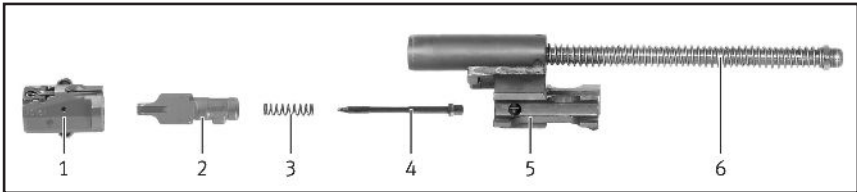

Fig. 34 – Components of the bolt group
4. Remove firing pin and pressure spring for firing pin forwards out of the bolt head carrier (Fig. 34).